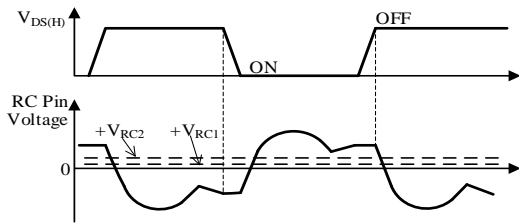
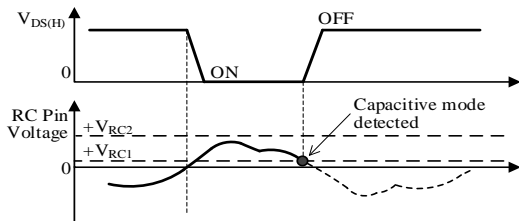
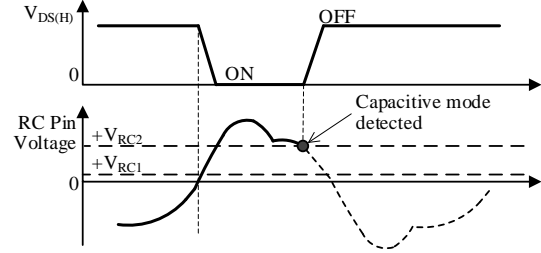

Figure 9-30. RC Pin Voltage Waveform in Inductive Area
Figure 9-31. High-side Capacitive Mode Detection (in Light Load)
Figure 9-32. High-side Capacitive Mode Detection (in Heavy Load)
The RC pin detects a resonant current to determine if a capacitive operation has occurred. When the capacitive mode is maintained for 100 ms or longer, the LLC switching operation stops. During the LLC_OLP operation, the intermittent operation by the VCC_UVLO is repeated (see Section 9.21). As shown in Figure 9-31 and Figure 9-32, the threshold voltage for the capacitive mode detection changes according to the load ranges: $V_{RC1} = \pm 0.10 V$ or $V_{RC2} = \pm 0.30 V$. The capacitive mode detection function is described further below. In the following descriptions, $Q_{(H)}$ represents the high-side power MOSFET, whereas $Q_{(L)}$ represents the low-side power MOSFET.
• **Q(H) Turn-on Period**
Figure 9-30 illustrates the RC pin waveform in the inductive area; Figure 9-31 and Figure 9-32 illustrate the RC pin waveforms in the capacitive area. In the inductive area, the RC pin voltage does not cross over the positive threshold voltage from high to low during the Q(H) turn-on period (see Figure 9-30). Conversely, in the capacitive area, the RC pin voltage crosses over the positive threshold voltage from high to low. At this point, a capacitive mode operation is detected. Then, Q(H) is turned off, whereas Q(L) is turned on (see Figure 9-31, Figure 9-32).
• **Q(L) Turn-on Period**